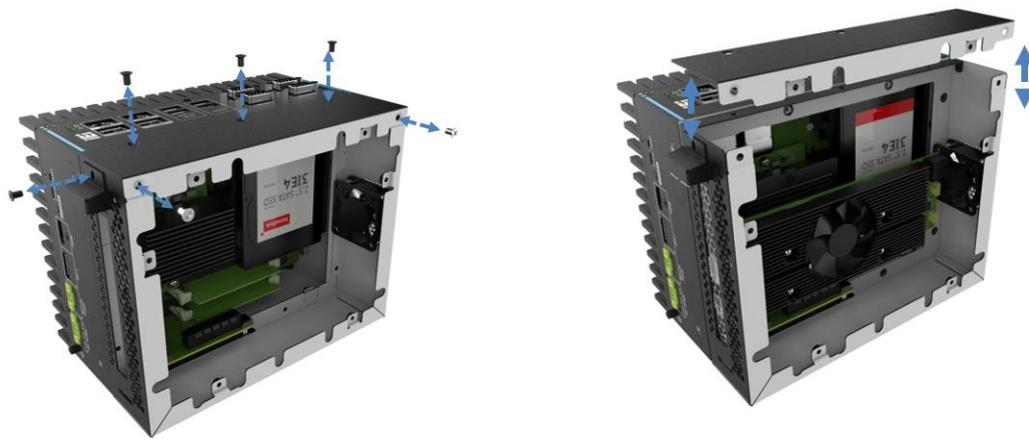

Figure 3-10: Expansion Chassis Installation
Step 3: To install an expansion card, open the cover on the top cover of the expansion chassis by removing 5 screws. Remove the blank bracket and install the PCIe card. Reinstall the bracket screw and the top cover after installing the card **(Figure 3-10).**